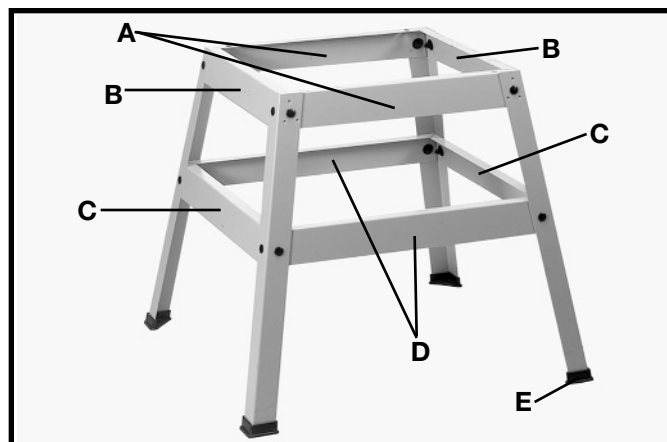

Fig. 4A
1. Assemble the stand as shown in Fig. 4A, using 16 carriage bolts, flat washers and hex nuts. Do not completely tighten the hardware at this time. Letters are stamped on the stand brackets for ease in assembly.
IMPORTANT: THE TOP FRONT AND REAR BRACKETS (A) FIG. 4A, ARE LONGER THAN THE TOP SIDE BRACKETS (B) FIG. 4A. THE BOTTOM FRONT AND REAR BRACKETS (D) FIG. 4A, ARE LONGER THAN THE BOTTOM SIDE BRACKETS (C).
2. Assemble the rubber feet (E) Fig. 4A, to the bottom of each leg (F) as shown. **NOTE:** Each rubber foot is provided with holes for mounting the stand to the floor surface if required.